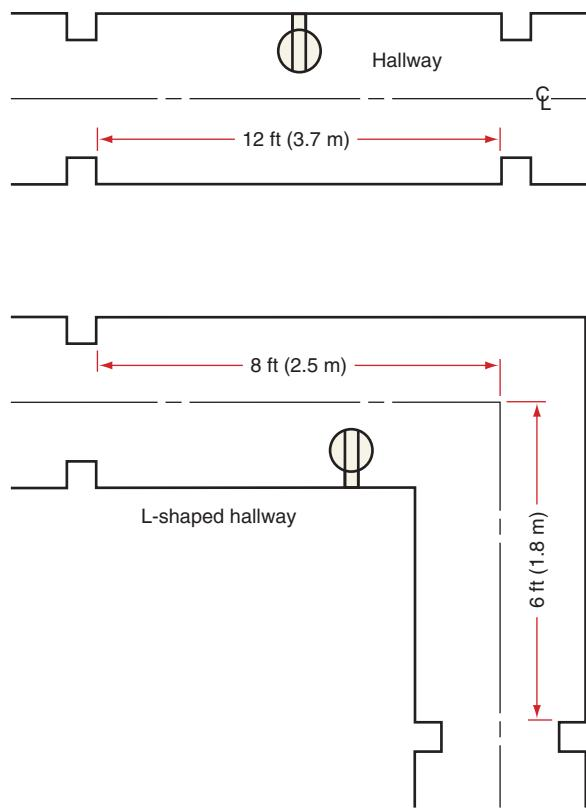

FIGURE 3-5 Determination of hallway length. Hallways 10 ft (3.0 m) or longer must have at least one receptacle outlet, 210.52(H).
- Hallways 10 ft (3.0 m) or longer in homes must have at least one receptacle outlet, 210.52(H). See Figure 3-5.